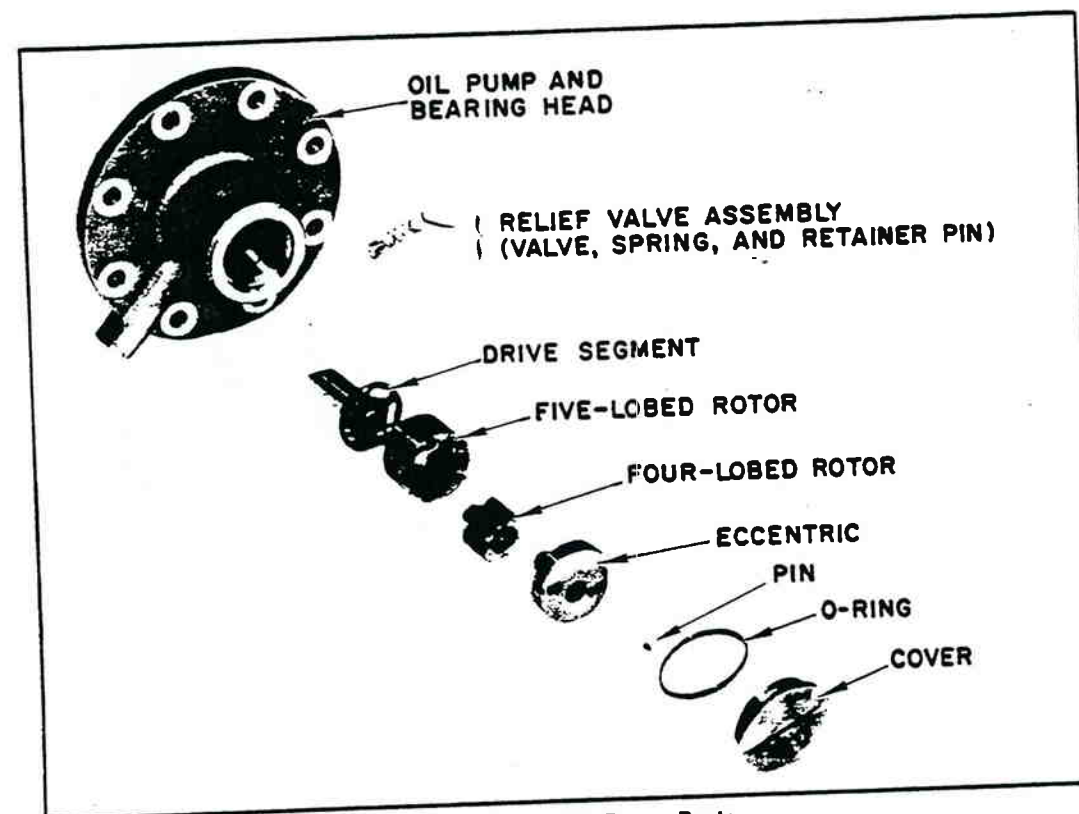

Figure 16-35: Oil Pump Parts
22. Remove pump cover and O-ring (figure 16-35).